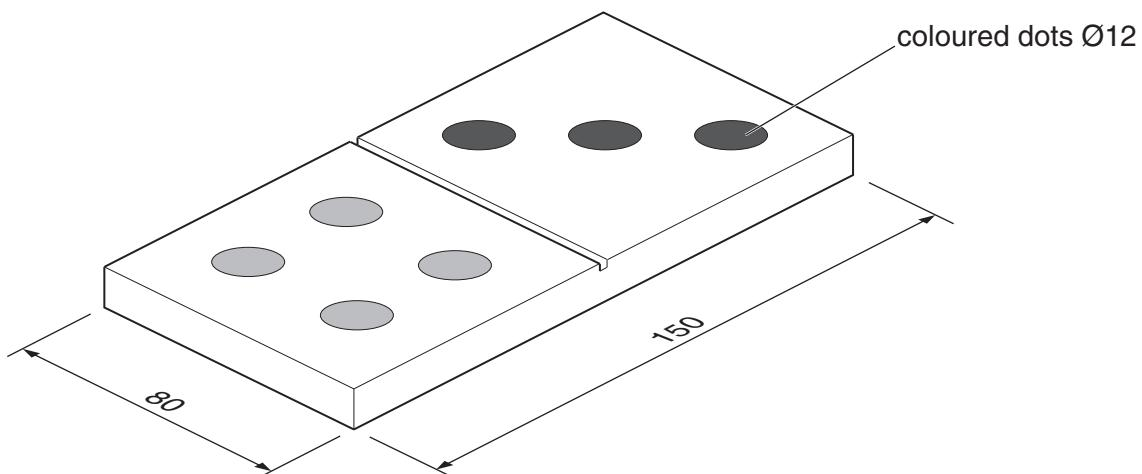

Fig. 7
- (d) Fig. 7 shows one domino. Each set of numbers is represented by different coloured dots.